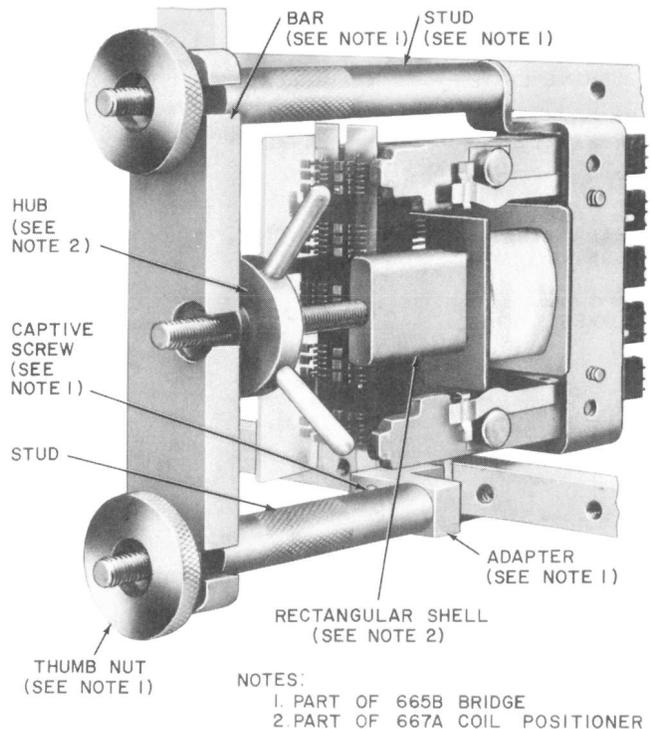

Fig. 8—286-Type Relay Mounting Coil
(1) Manually start the new coil on the core with the coil terminals at the rear and to the left of the core. Make sure the terminals enter the associated slots at the rear of the relay. If the terminals do not enter the slots, bend them at their base so they will enter.
(2) Place the hub of the 667A coil positioner on the screw of the positioner with the shoulder of the hub toward the outer end of the screw. Turn the hub on the screw as far as possible. Place the rectangular shell of the coil positioner on the outer end of the core. Position the bar of the 665B bridge on the studs with the end of the bar marked TOP uppermost and with the screw of the coil positioner passing through the center notch in the bar. Securely tighten the thumb nuts against the bar. Turn the hub of the coil positioner counterclockwise until the shoulder of the hub seats in the center notch of the bar as shown in Fig. 8.
(3) Continue to turn the hub counterclockwise until the inner end of the rectangular shell butts on the shoulders of the core. This properly positions the coil on the core. Turn the hub clockwise to disengage the coil positioner from the core and remove the positioner.